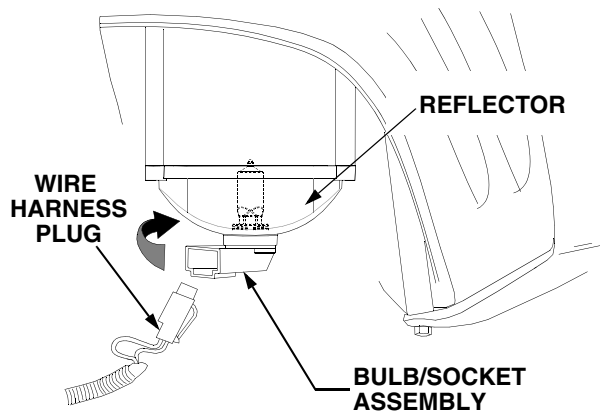

Figure 35
- Pull the wire harness plug from the bulb/socket assembly to unplug the wire harness. Refer to Figure 35.